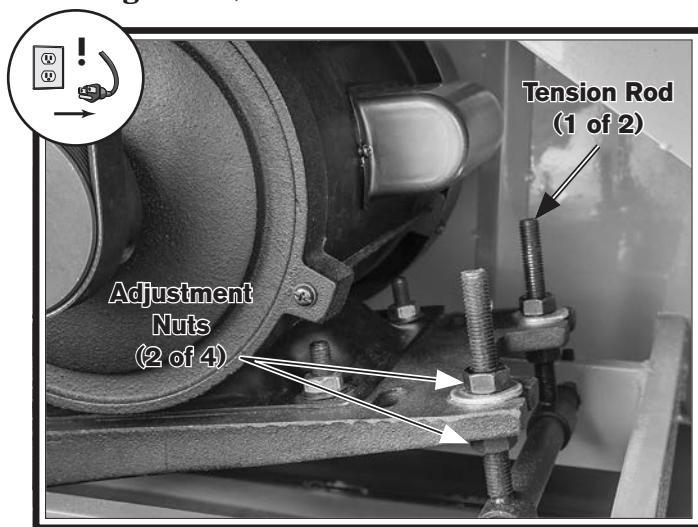

Figure 60. V-belt tension adjustment components.
3. Loosen adjustment nuts on tension rod (see **Figure 60**) to allow motor to raise or lower.